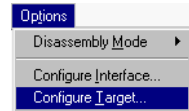

Figure 2-2 The AXD Options menu
2. Select **Options** → **Configure Target** (Figure 2-2 on page 2-4).